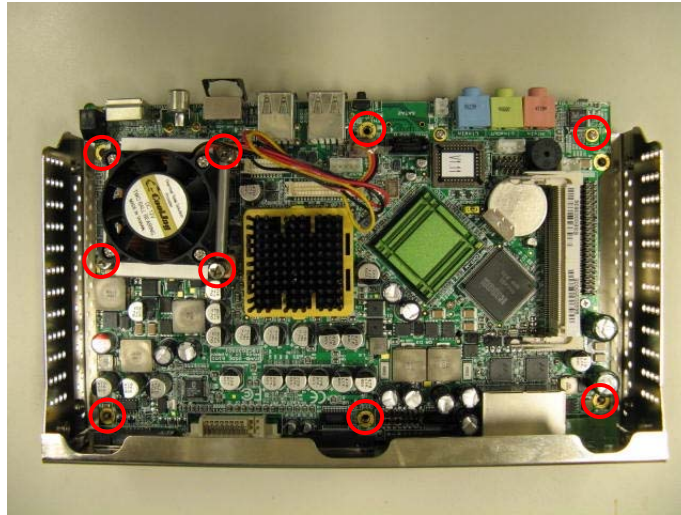

Figure 3.4: The bottom inside of DSA-3400
4. Unscrew the 10 screws from mother board to the bottom.(refer the Figure 3.4: The bottom inside of DSA-3400)
2. Unscrew the 4 screws on HDD mounting top cover of the DSA-3400(refer *Figure 3.4: The Hard Disc of DSA-3400*)